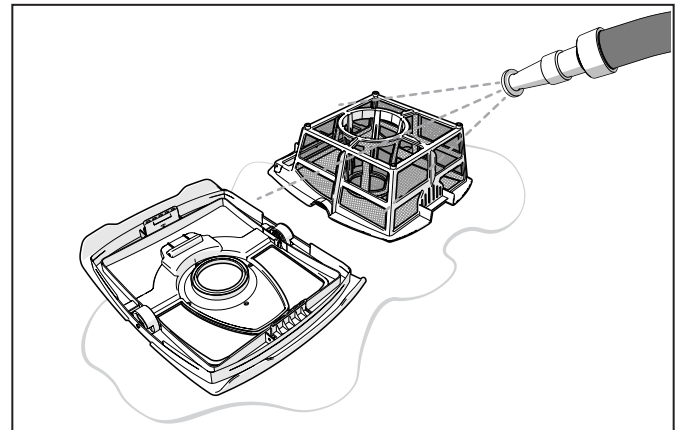

Figure 18. Rinse the Filter Canister
5. Using a hose with clean water, rinse the filter canister and lid to remove all debris (see Figure 18). Periodically, use mild soap to wash the canister mesh and remove fine debris that can clog the flow through the filter canister. Rinse thoroughly with clean water.